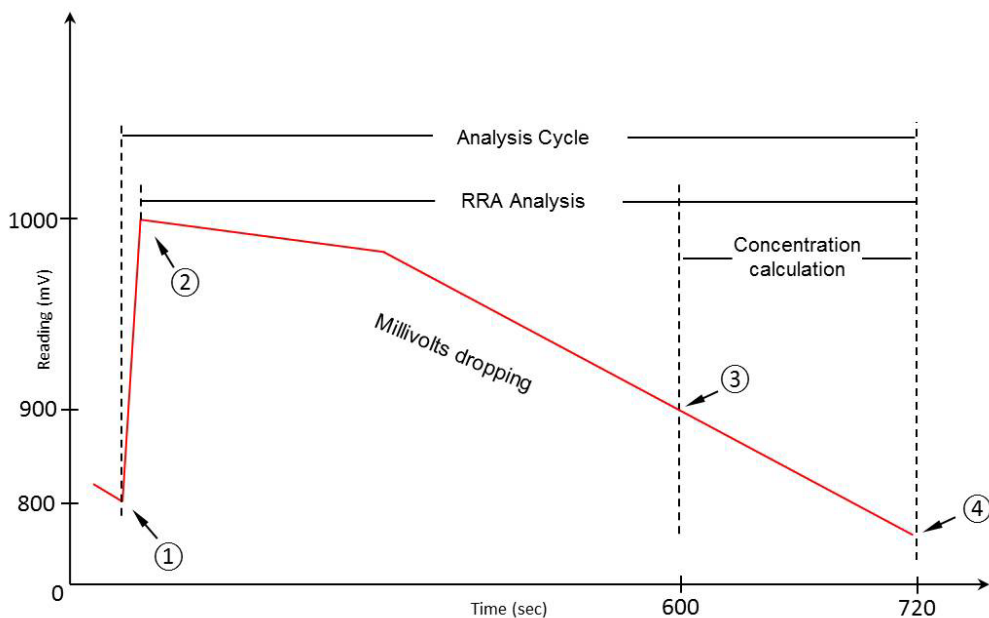

Figure 2. H₂S Analysis Cycle
Figure 2 shows a complete analysis cycle from when the motor has advanced the H₂S sensing tape from a previous analysis (1), to the end of the current analysis (4). Once the H₂S sensing tape has finished moving and new tape surface area is exposed, the reflection of light from the LED to the photodiode detector is at its maximum and results in a voltage output from the sensor block of 1000 mV (+/- 100 mV). This voltage is captured by the analyzer and it is referred to as the "Zero Voltage". The zero voltage will vary for each surface area of the H₂S sensing tape and will represent the starting point for the H₂S reading for that cycle.